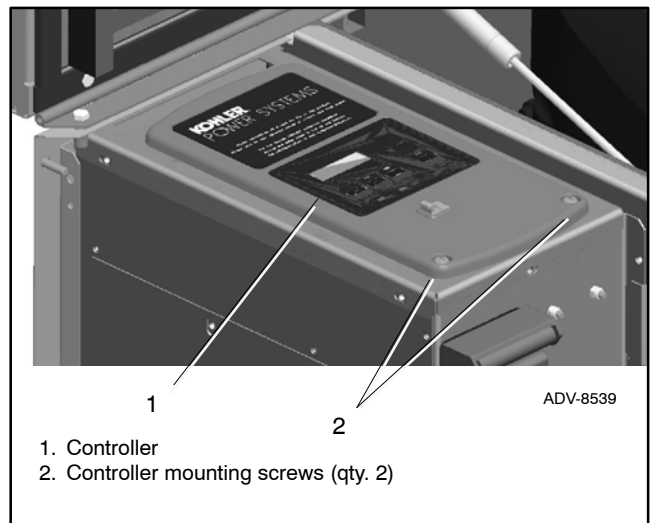

Figure 11 Controller Location
2. Using the enclosure locking tool provided with the generator set, open the enclosure roof. See Figure 11.
6. Remove the two (2) screws securing the controller to the junction box and *carefully* lift the bottom edge of the controller. See Figure 11.